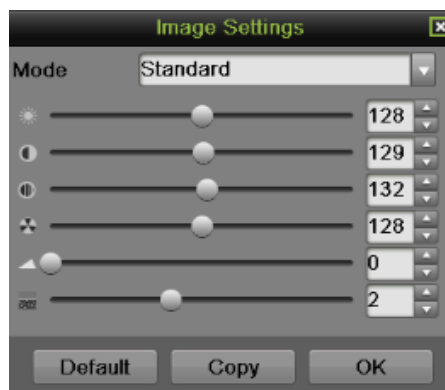
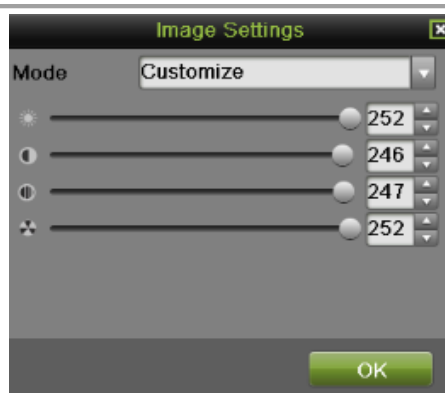

Figure 57 Analog Camera Image Settings Menu
Figure 58 IP camera Image Settings Menu
2. Click the Image Settings icon. This will bring up the Image Settings menu, analog camera is shown in **Figure 57**, IP camera is shown in **Figure 58**.